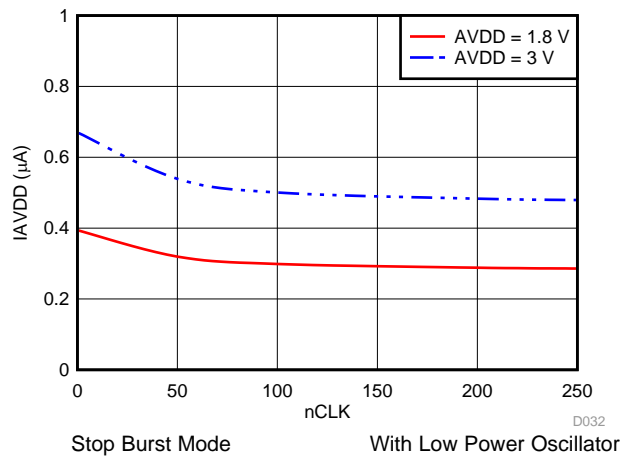
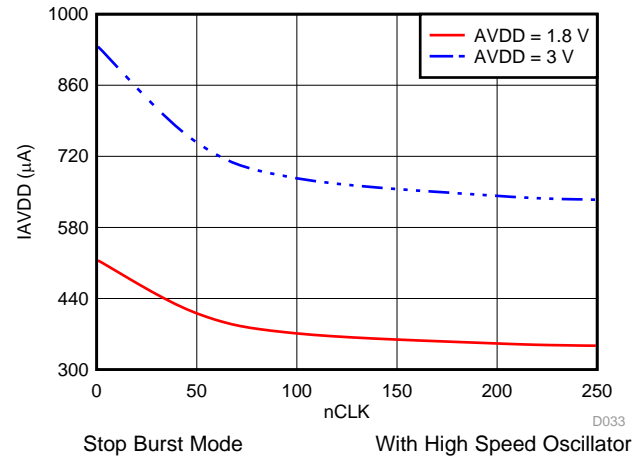
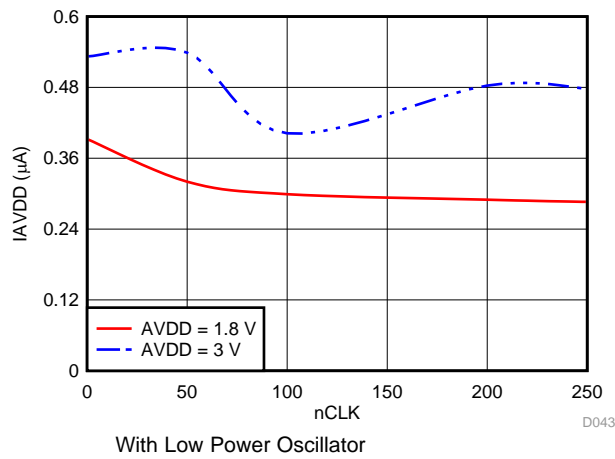
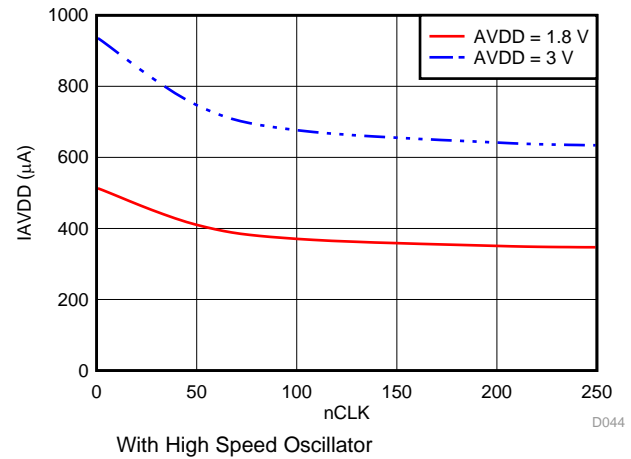

图 71. I_{AVDD} in Autonomous Modes with $nCLK$
图 72. I_{AVDD} in Autonomous Modes with $nCLK$
图 73. I_{AVDD} in High Precision Mode with $nCLK$
图 74. I_{AVDD} in High Precision Mode with $nCLK$
- In *Autonomous Modes* and *High Precision Mode*, the balance between sampling speed and power consumption can be obtained by selecting the oscillator for conversion and setting the nCLK value. The device sampling speed and power consumption reduce by increasing the nCLK value. Refer to 图 71, 图 72, 图 73 and 图 74 for current consumption in Autonomous modes and High Precision mode with different nCLK values.